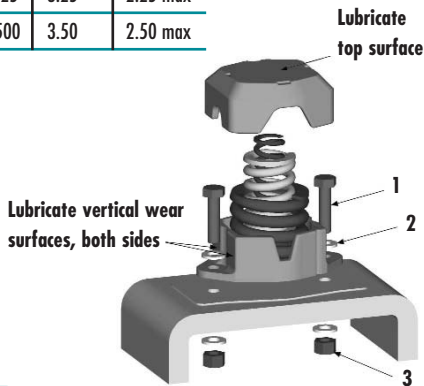

Figure 5:
- Fig. 5** Bearing Assembly 10